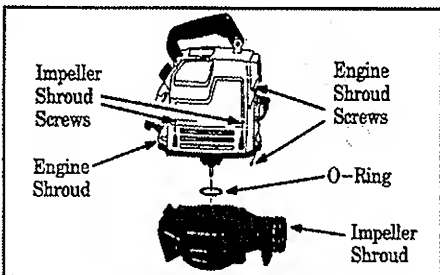

Figure 14
3. Remove the 4 impeller shroud screws and the 2 engine shroud screws. Figure 14. Remove the impeller shroud from the engine shroud.
**NOTE:** Be sure the rubber O-ring is installed onto the pulley housing. See Figure 14.